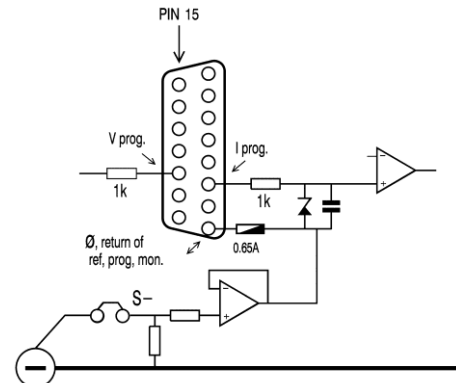

fig 4 - 4
- For the other units, the inputs have a protection circuit formed by a series resistor and a parallel zener (see fig. 4 - 4). The capacitor limits the speed to a safe value. **Note that the analog inputs (and outputs) are not floating, but the common is connected to the 'minus' DC output terminal.** Wrong connection of Ø can cause earth loops which can trip the fuse. After removing the fault, the fuse will reset (PTC-fuse). For isolated programming see next paragraph.